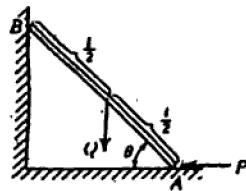

Fig. 4
8. a) A slender prismatic bar AB of length l and weight Q stands in a vertical plane and is supported by smooth surfaces at A and B as shown in Fig. 4. Using the principle of virtual work, find the magnitude of the horizontal force P applied at A if the bar is in equilibrium. 7